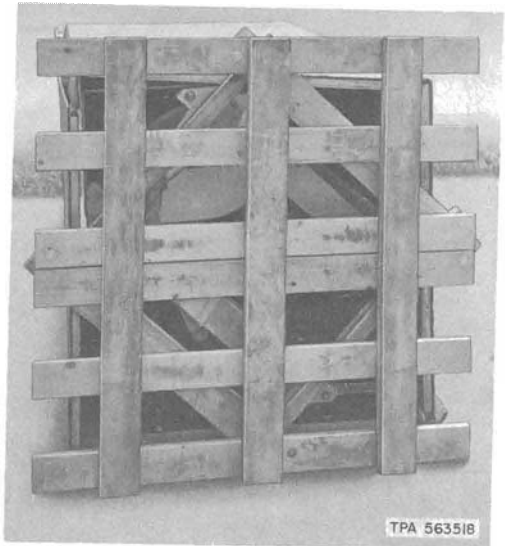

**Fig. 16—Kiosk in Packing Case**
- (1) The kiosk comes packaged as shown in Fig. 16.